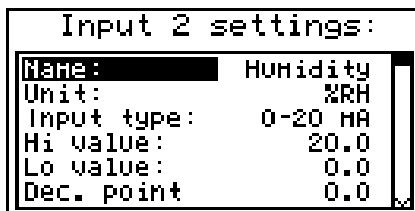

Fig. 7.20. "Inputs settings" (part 1)
**"Upper ext."** - parameter defining the allowable range of input currents (**Fig. 7.20**).